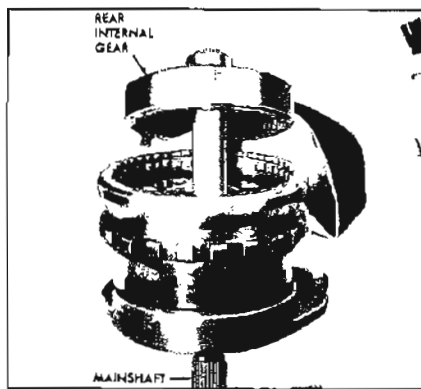

Figure 5-566
11. Remove rear internal gear and mainshaft. See Figure 5-566.